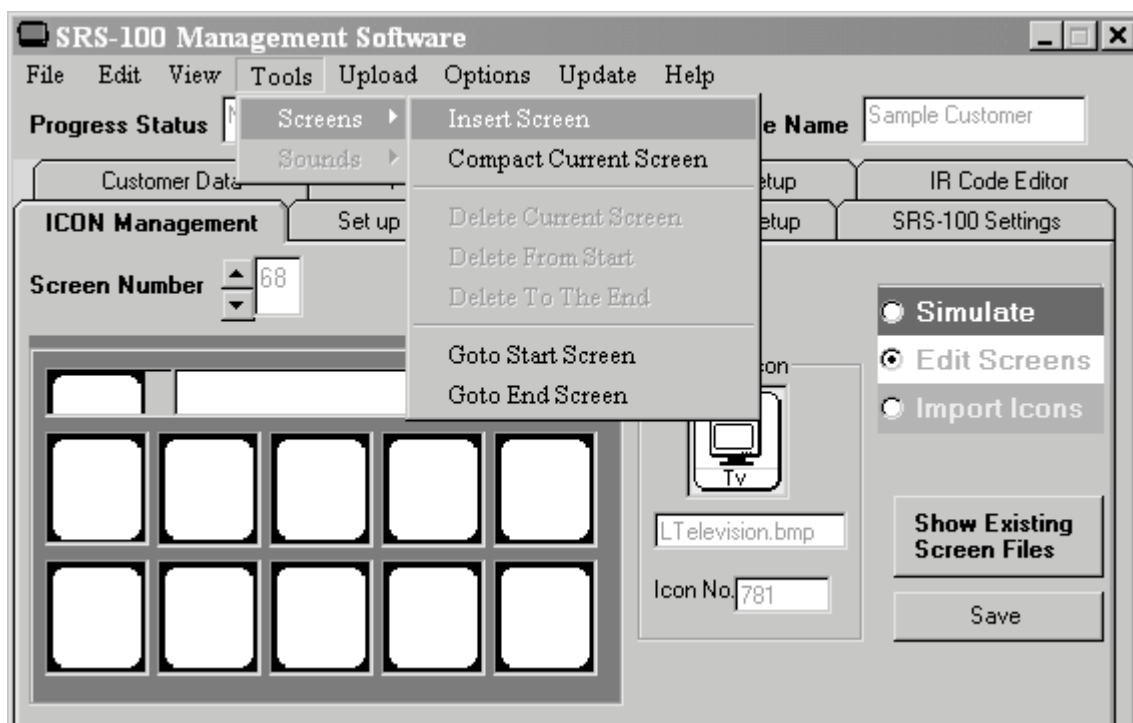

Figure 5. Inserting Blank Screens
1. From the ICON Management page, select **Tools** then **Screens** then **Insert Screen**. See figure 5.